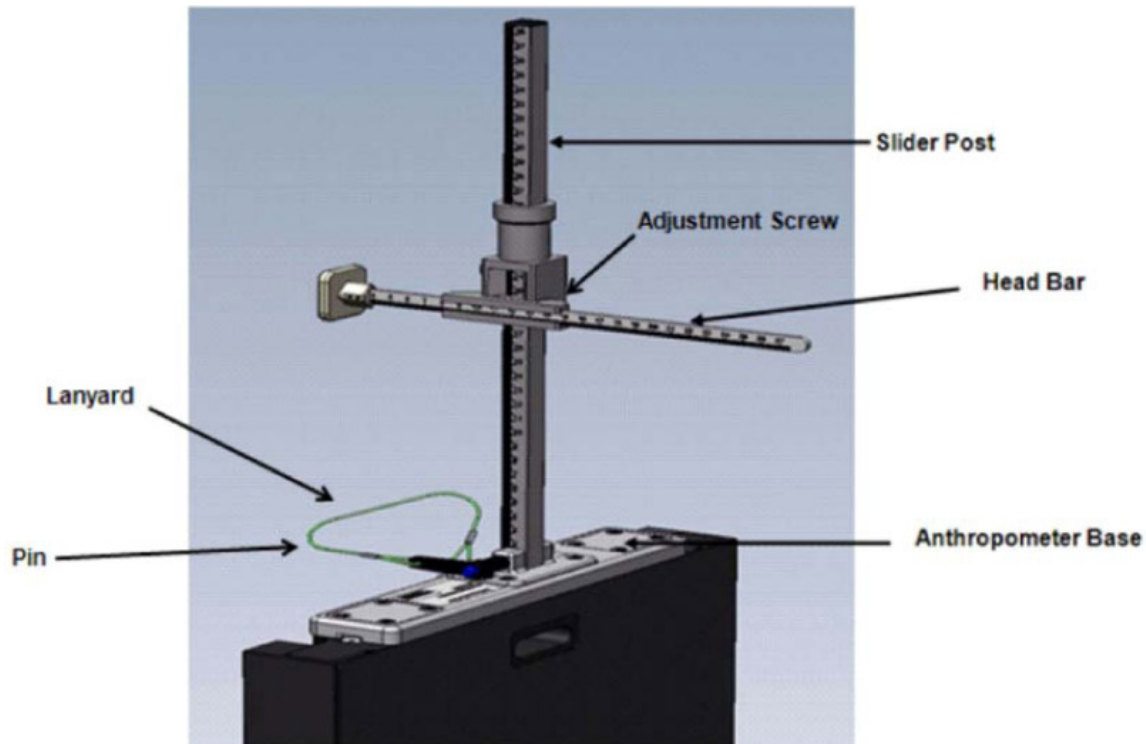

Figure 3. Final Assembly of Anthropometer Base on CDR Seat.
- 2.6.8 Insert Head Bar into slot on Slider Post (loosen adjustment screw if necessary to insert Head Bar). Refer to Figure 3.